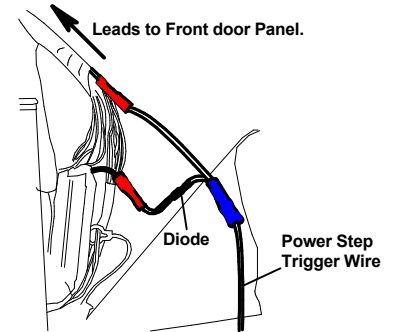

Figure A-3
6. Cut this wire and install Single Diode Harness as oriented in Figure A-3.